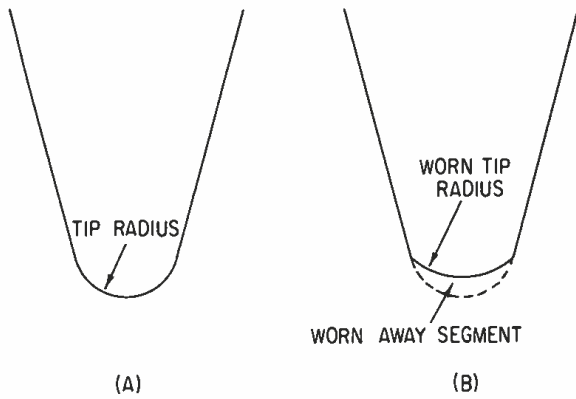

Figure 9. Stylus wear and tip radius. At (A) is an unworn stylus. At (B) the change of radius due to wear is clearly seen.
The effect of a worn playback stylus can now be related to tracing distortion. FIGURE 9(A) shows a normal unworn stylus viewed 45° to the recorded surface (same view as in FIGURE 1). FIGURE 9(B) shows the same tip after it has been worn. The stylus now appears to have a larger radius and the ratio  $\frac{R_s}{R_g}$  for any set of recorded conditions will be larger, and the distortion proportionally greater. To give the reader some feeling for the magnitudes involved, we list three sets of conditions for  $\frac{R_s}{R_g} = 1$ , and where second harmonic distortion